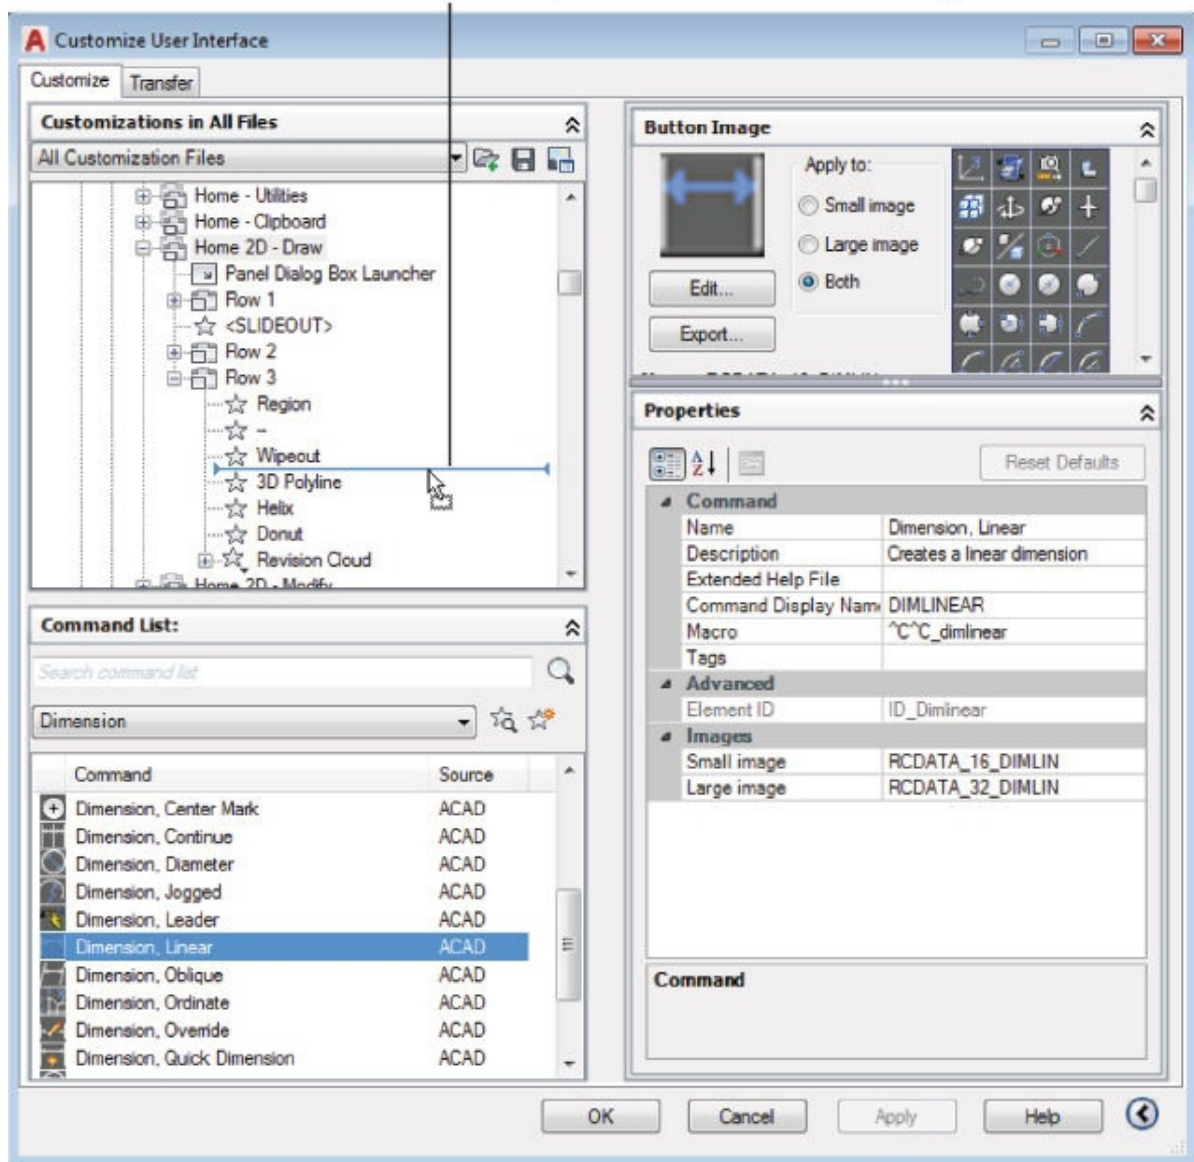

FIGURE 24.6 The Panel Preview area changes when you select an element from the Command List group or the Customizations In All Files group.
7. In the bottom panel of the Command List group, scroll down the list and then locate and select Dimension, Linear. This is the Linear Dimension command. When you select Linear, the Properties group displays the properties of the Linear command. The Panel Preview area changes to show the Button Image group, and you see the Linear Dimension icon, as shown in Figure 24.6.
8. Carefully click and drag the Dimension, Linear item from the Command List group into the Customizations In All Files group, but don't release the mouse button yet. As you drag the item over the tool names in the Customizations In All Files group, a bar tells you where your dragged item will appear (see Figure 24.6). If you pause over a folder option that contains a list of commands, you'll see an arrowhead appear next to the option. The arrowhead also indicates where the dragged command will be placed. The list may automatically scroll up or down depending on where you place the bar. This is to allow you to place the bar in an area of the list that isn't currently displayed.